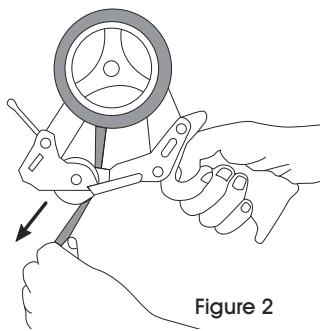

Figure 2
2. Unroll 5-6 inches of tape (sticky side down) and thread between smoothing roller and plastic loading gate. (See Figure 2)